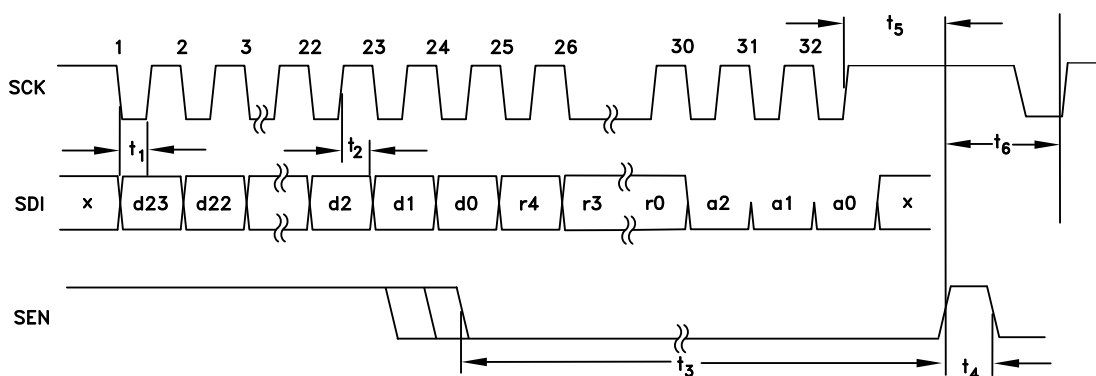
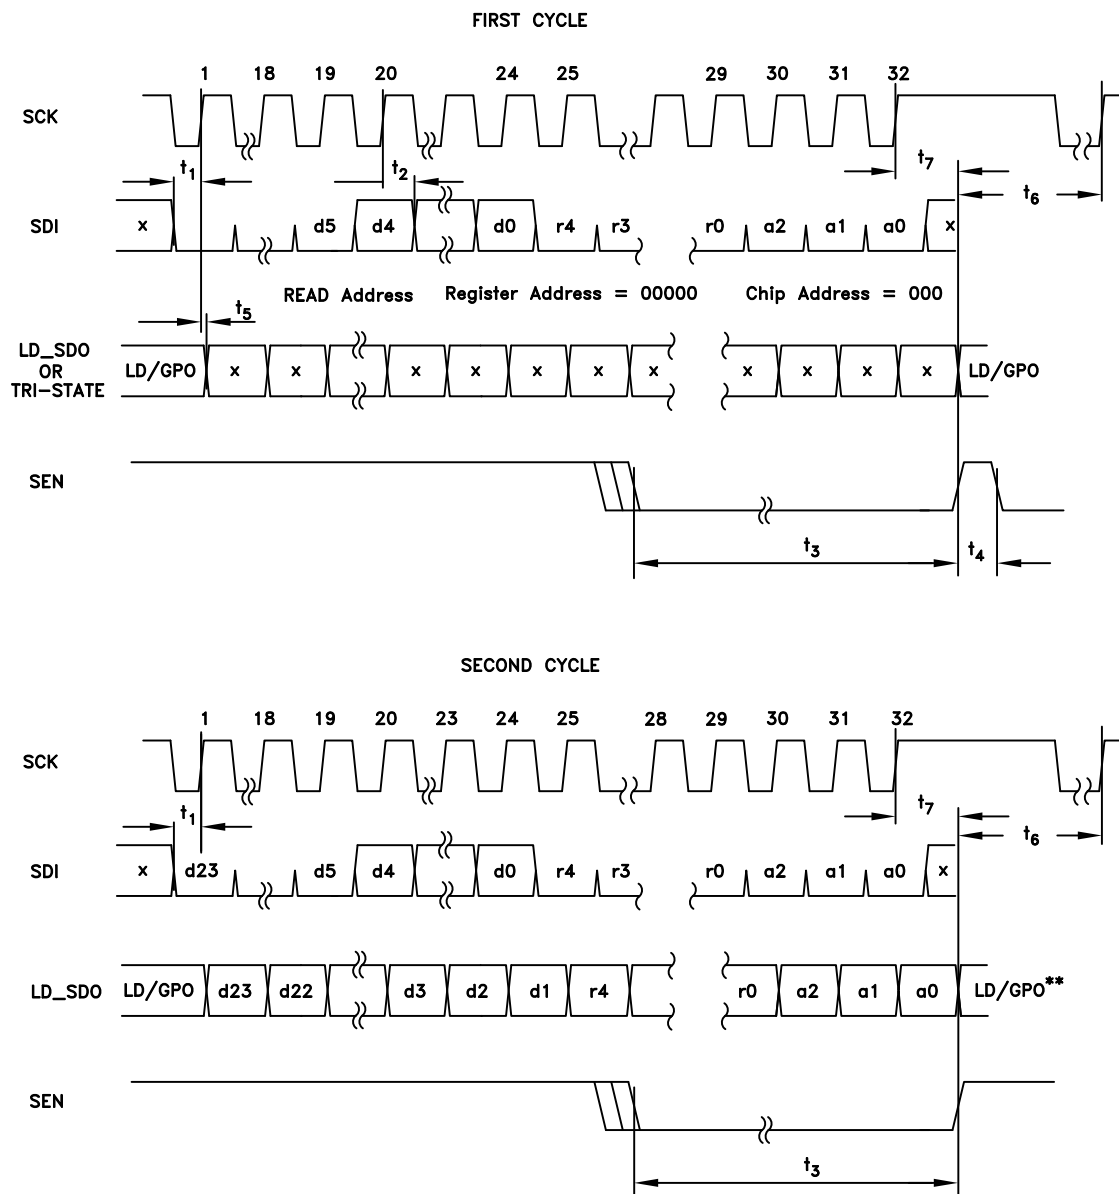

Figure 47. Open Mode - Serial Port Timing Diagram - WRITE
Figure 48. Serial Port Timing Diagram - READ
The Serial Port Open Mode, shown in Figure 47 and Figure 48, features:
A typical WRITE cycle is shown in Figure 47.
A typical READ cycle is shown in Figure 48.
- a. The Master (host), on the first 24 falling edges of SCLK places 24-bit data, d23:d0, MSB first, on SDI as shown in Figure 48. d23:d5 should be set to zero. d4:d0 = address of the register to be READ on the next cycle.